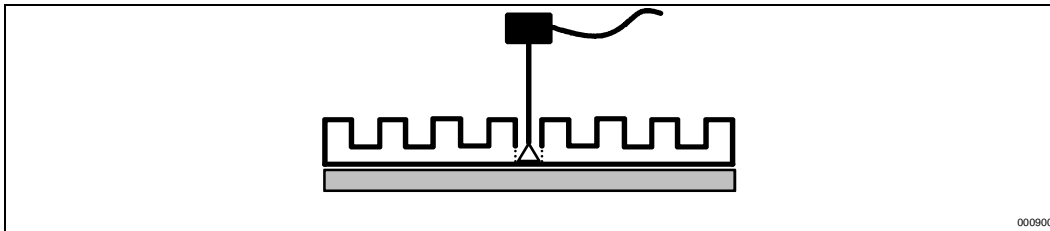

Figure 21. Technique for Measuring T_{PLATE} with 90° Angle Attachment
- The thermocouple should be attached at a 90° angle if a heatsink is attached to the thermal plate and the heatsink covers the location specified for T_{PLATE} measurement (refer to Figure 21).